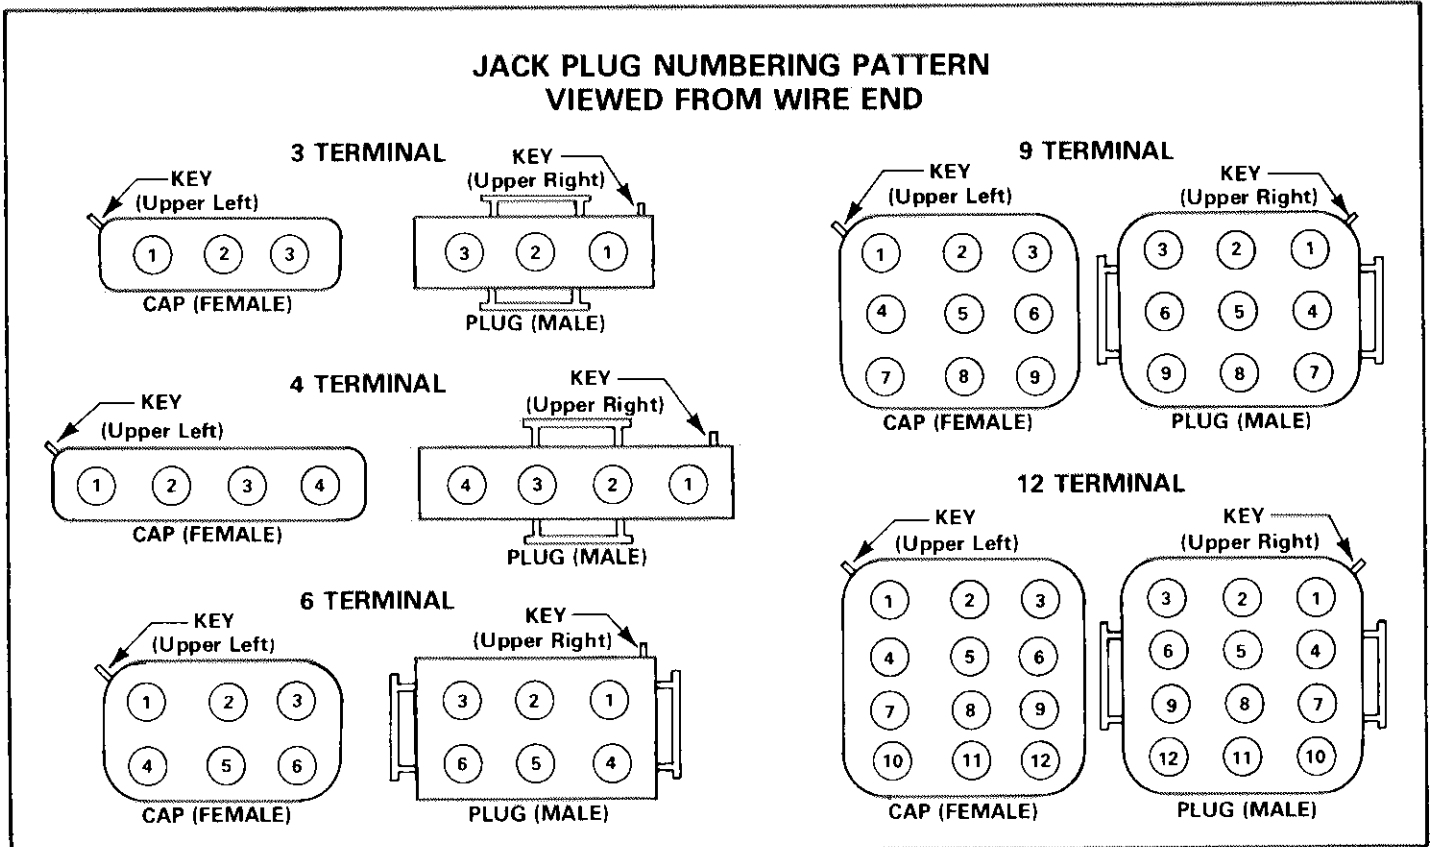

FIGURE 23
- 3 - Terminal numbers on jack plugs are located by a ridge on the corner of the plug called the "Key." Refer to Figure 23 for proper numbering sequence.